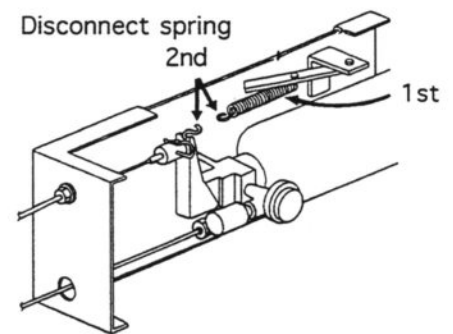

Figure 4
5. Release cocking arm and disconnect spring from valve handle (Figure 4).